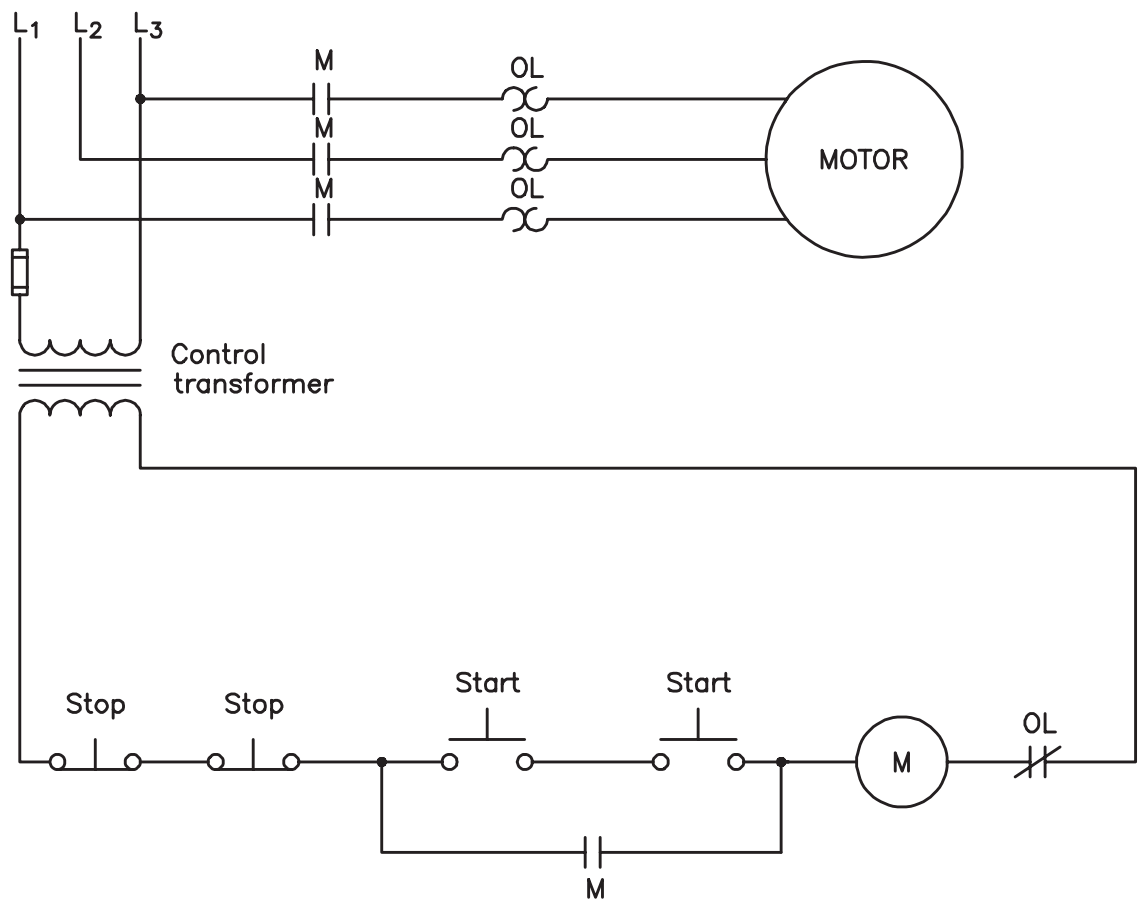
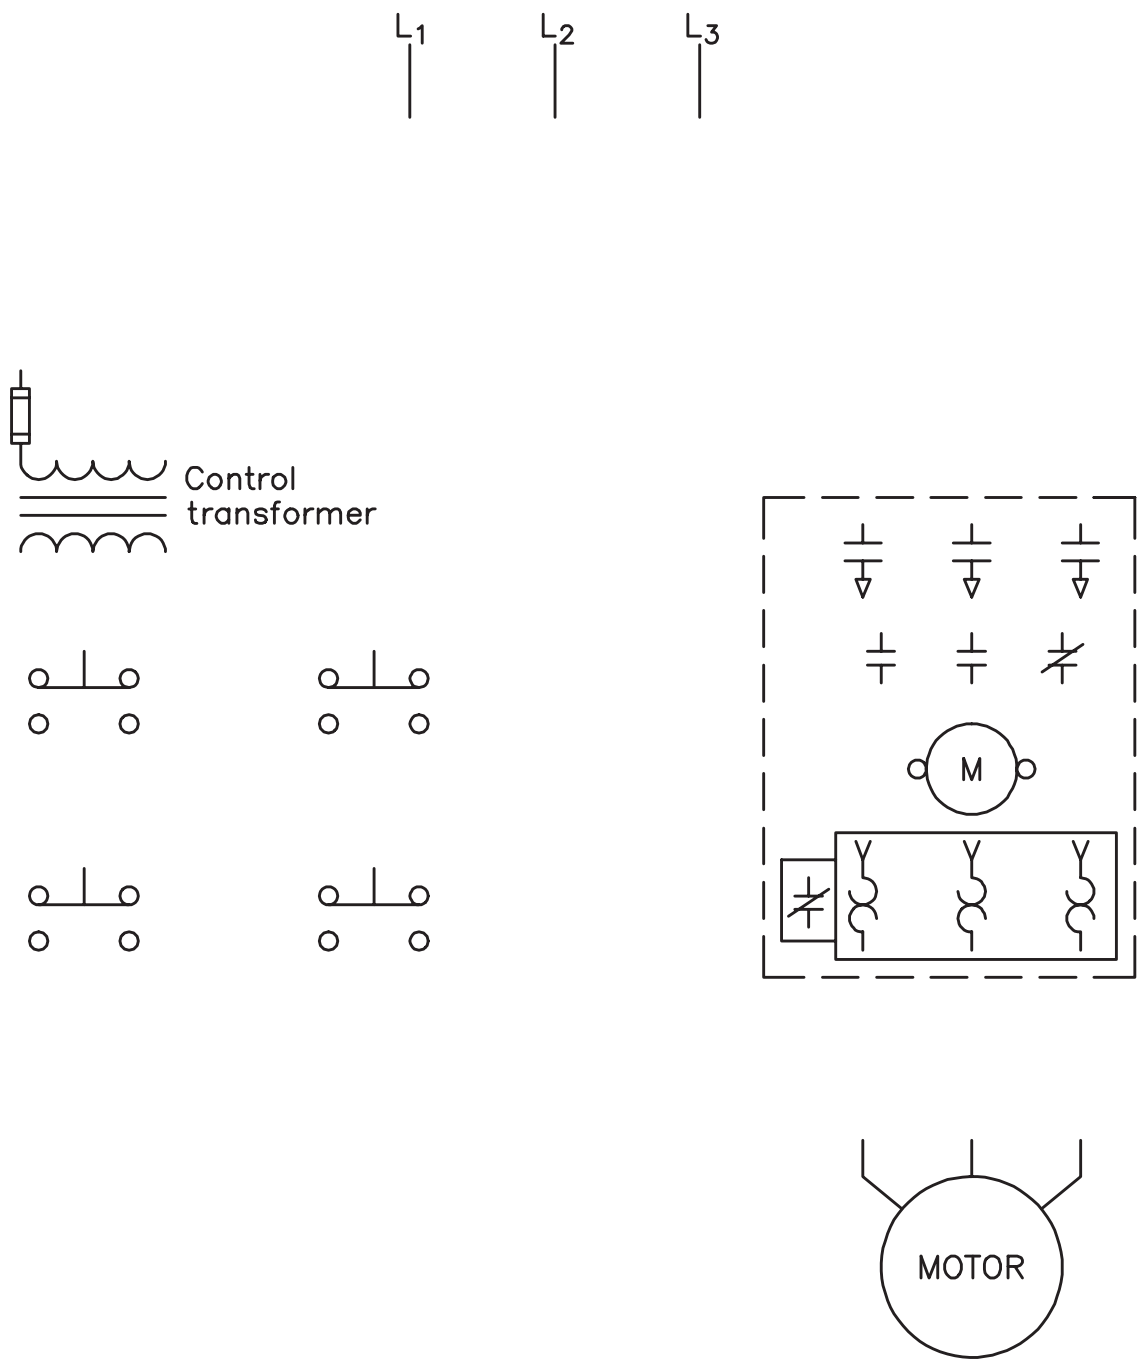

Figure 27-7 The start buttons are connected in series.
Figure 27-8 Add wire numbers to these components.
4. What would be the action of the circuit if both start buttons were to be connected in series as shown in Figure 27-7?
5. Following the procedure discussed previously, place wire numbers on the schematic in Figure 27-7. Place corresponding wire numbers on the components shown in Figure 27-8.